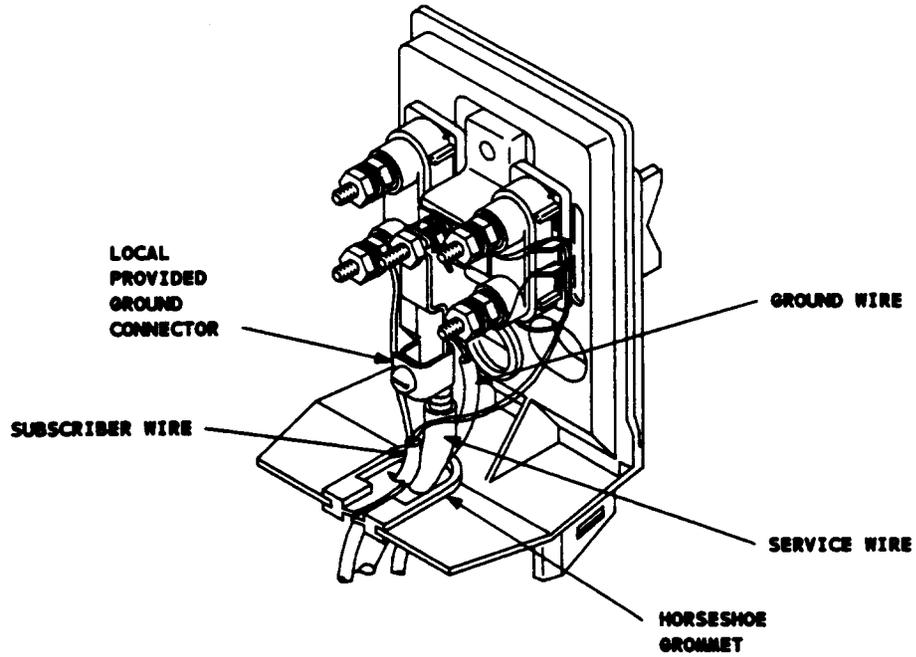

Figure 6. 401 NIU — Completing the Protector Wiring
- (3) Place the wires through the horseshoe grommet and secure the wiring in the grommet (Figure 6). Attach ground and service wire(s) per Practice 462-005-101.